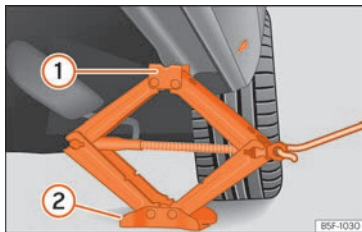

Fig. 77 Crossbar: mounting the jack on the vehicle.
- Turn the jack* crank handle, located below the strut support point, to raise it until the tab ① »» Fig. 77 is below the housing provided.
- Align the jack* so that tab ① “grips” onto the housing provided on the strut and the mobile base ② is resting on the ground. The base plate ② should fall vertically with respect to the support point ①.